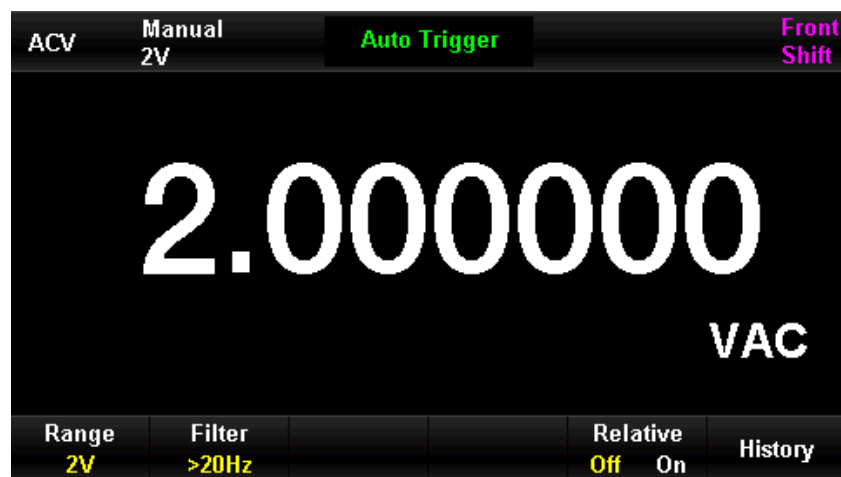

Figure 0–14 AC Voltage Measurement Menu
1. Press the  key on the front panel to enter the AC voltage measurement menu, as shown in Figure 0–14.